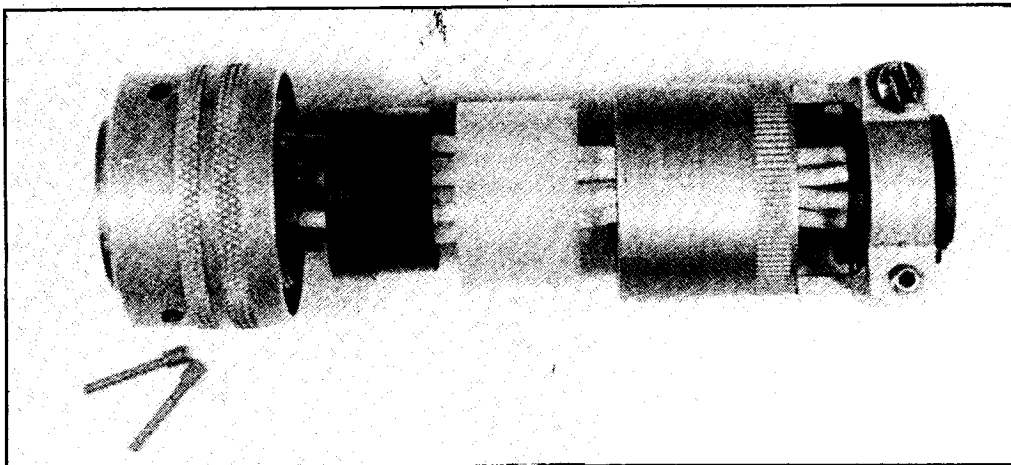

Figure 1
- 2-1. Assembly Procedures, Strain Relief (SR).
- 2-2. A strain relief clamp is available in the class E (SR) series to provide additional support for the wire bundle where extremely rugged service conditions are to be encountered. Slide the rubber bushing (if used), clamp and sleeve up the wire bundle. Thread the wires through the proper grommet hole as illustrated in Figure 1. Strip and solder as outlined in Section I. Seat the grommet over the wire wells and against the insert. Fill all unused grommet holes with a nylon sealing plug 10-405996-20 for size 20 contacts and 10-405996-16 for size 16 contacts. Slide the sleeve over the grommet. Lubricate the external surface of the sleeve and internal surface of the clamp with a U.S.P. grade of white petrolatum (Parmo 12 from Esso Standard Oil Co.) or a premium RB grease (available from Texaco, Inc.). Slide the clamp forward and tighten. Work the rubber bushing (if used) under the strain relief bars and tighten the clamping screws. If a bushing is not used, build up a layer of vinyl tape under the clamp to protect the wire bundle from possible damage.